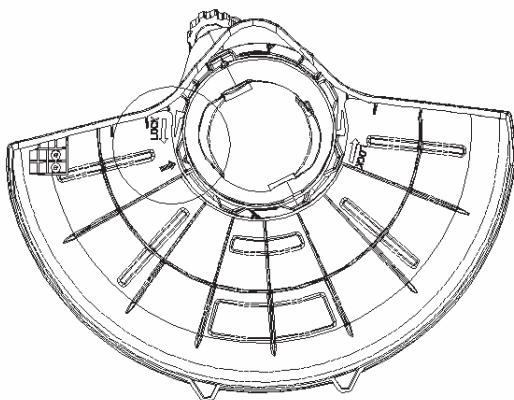
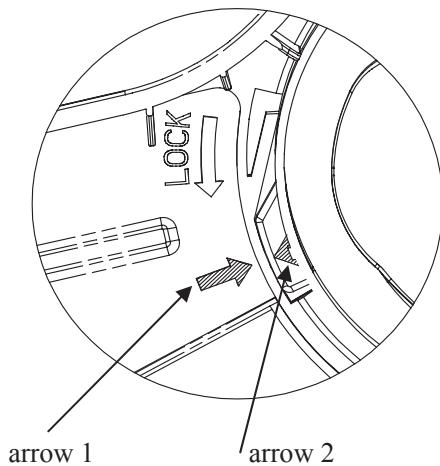

Fig. 5
Fig. 6
1. Align the installation arrow 1 on the debris shield with the installation arrow 2 on the housing as shown. (Fig.5 and Fig. 6.)
2. Twist the debris shield in the **LOCK** direction shown, until it snaps securely into place (Fig.6). Make sure the debris shield is assembled to the unit as shown in the KNOW YOUR TRIMMER section of the manual.